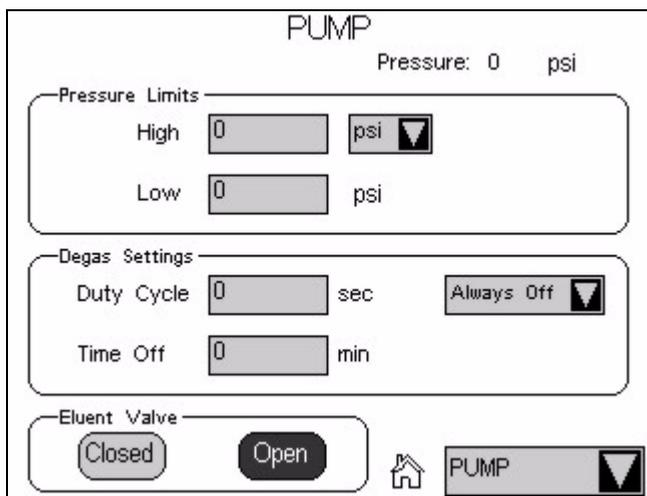

Figure B-24. Pump Page: Eluent Valve Open
5. Touch **PUMP** to open the touch screen **PUMP** page (see Figure B-24). Under **Eluent Valve**, touch the **Open** button.